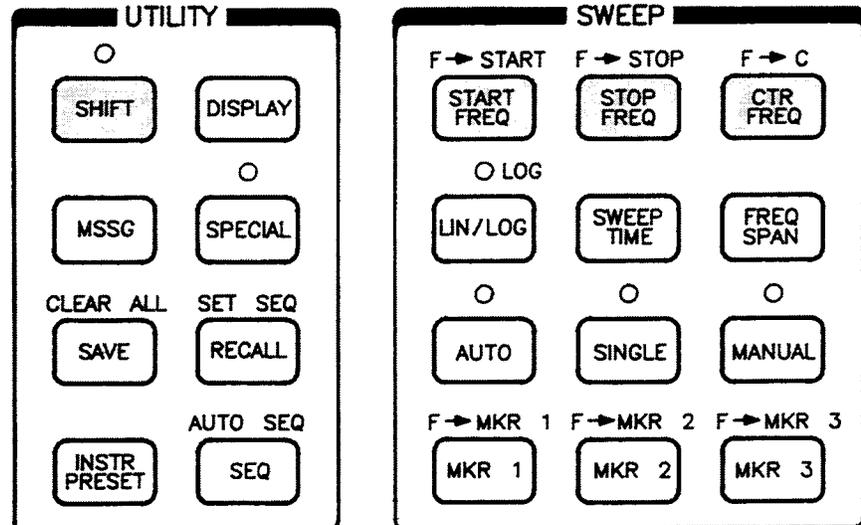

Figure 4-6. Shift Key for Start, Stop, Center, and Span.
- Press the blue **SHIFT** key, and then one of the start, stop, center, or span keys shaded in figure 4-6. This enters the value of the RF output frequency last displayed when the HP 8645A was acting as a non-swept CW signal source: